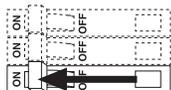

Figure 2
6. Install trim/LED module (**Figure 2**) by compressing trim clips and pushing the trim into opening until clips engage on sides of the housing. Use a damp cloth to clean the trim/lens.
4. Replace trim/LED module (**Figure 2**) by compressing trim clips and pushing the trim into opening until clips engage on sides of the housing. Use a damp cloth to clean the trim/lens.